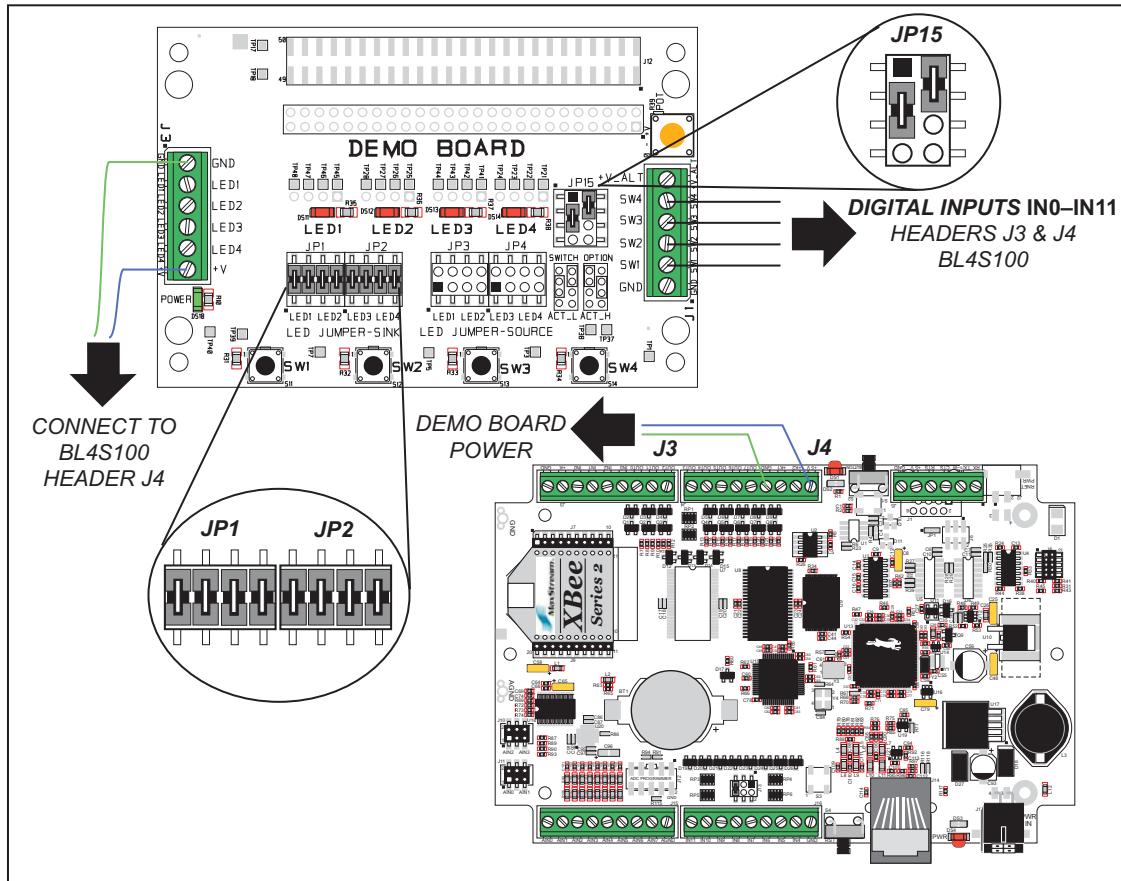

Figure 14. Digital Inputs Signal Connections
Figure 14 shows the signal connections for the sample programs that illustrate the use of the digital inputs.
- **INTERRUPTS.C**—Demonstrates the use of the Rabbit RIO interrupt service capabilities. Set up the Demonstration Board as shown in Figure 14 with IN0 connected to SW1.